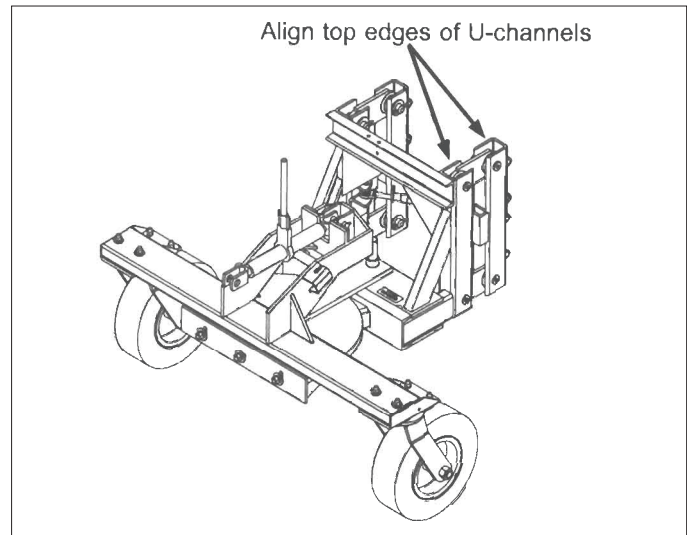

figure 1
3. Adjust the loader arms so the tops of the U-channels on the sweeper and the tops of the U-channels on the loader arms are even (figure 1).